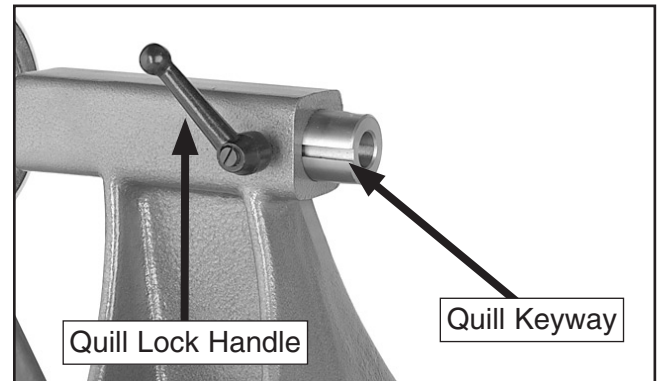

Figure 25. Quill lock handle aligned with quill keyway.
5. Make sure the center of the quill lock handle is aligned with the quill keyway to ensure that the tailstock center and quill will not freely rotate under load (see **Figure 25**).